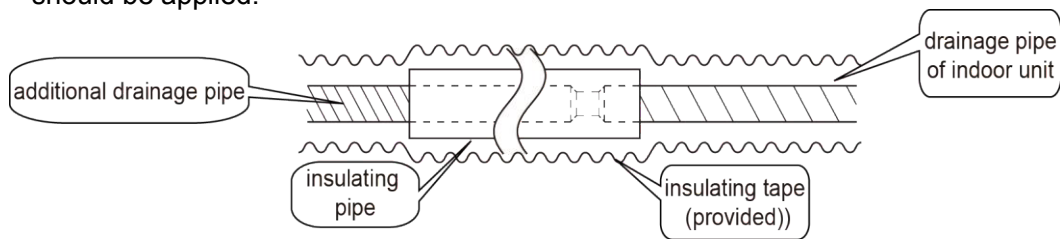

Fig 4.3.1
- (1) The drainage pipe should be short and the gradient downwards should be at least 1%~2% in order to drain condensation water smoothly.
- (2) The diameter of drainage hose should be bigger or equal to the diameter of drainage pipe joint.
- (3) Install drainage pipe according to the following fig and arrange insulation to the drainage pipe (Fig 4.3.1). Improper installation may lead to water leakage and damp the furniture and other things in the room.
- (4) You can buy normal hard PVC pipe used as the drainage pipe. During connection, insert the end of PVC pipe into the drainage hole and then tighten it with drainage hole and wire binder. Can't connect the drainage hole and drainage hole with glue.
- (5) When the drainage pipelines are used for several units, the position of pipeline should be about 100mm(4in.) lower than the drainage port of each unit. In this case, thicker pipes should be applied.